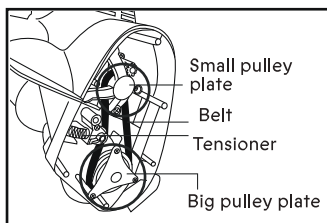

Fig. 17
Remove the tensioner (Fig. 17).
Unscrew the three (3) screws from the big pulley plate and the four (4) screws from the small pulley plate (Fig.17).